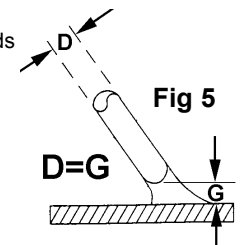
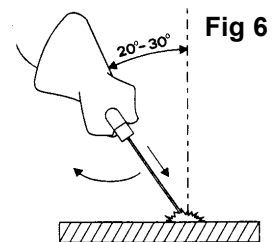

Fig 5
Fig 6
- 5.5.5 As soon as the arc is struck maintain a steady gap between the end of the electrode and the workpiece equal to the diameter of the electrode in use (See fig 5). Try to maintain this gap continuously through out the duration of the weld. The electrode should also be held at an angle of 20° to 30° from the vertical. (See fig.6).